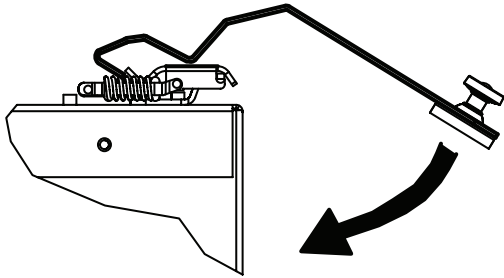

Figure 18 - Latch Opener
2. Hook opener over latch as shown in Figure 18. Swing the bottom of the opener down toward the door. You will not need to pull down.